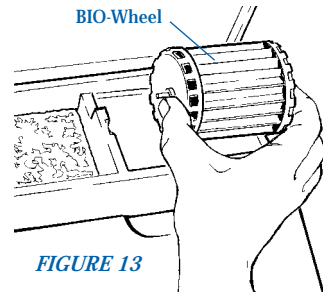

FIGURE 13
1. Remove Filtration Access Panel. Remove BIO-Wheel. To avoid disturbing beneficial bacteria culture, handle a BIO-Wheel by the Ends and/or Axle (Fig. 13).